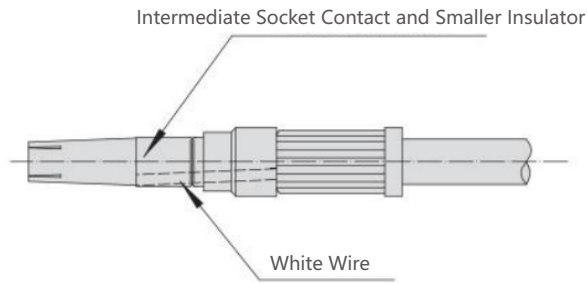

Figure 3.5
⑤As shown in Figure 3.5, proceed as follows: